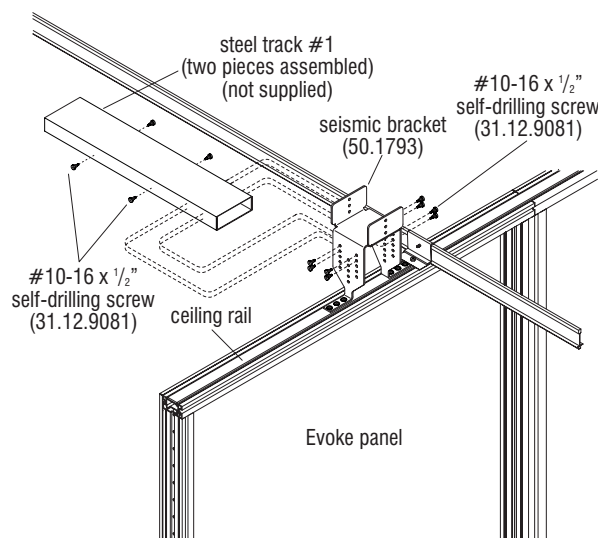

Figure 6 - Off-Center Seismic Bracing - Steel Track #1 to Seismic Bracket
2. Create steel track #1 length first to reach from the installed seismic bracket, over to a location where steel track #3 can reach vertically up to structure above (see Figure 7 for assembly reference). Steel track #1 will be made of two identically cut lengths of track fastened together and will not require any cuts for a bend (Detail B). It must extend horizontally from the seismic bracket to the location where steel track #2 can attach to it. Take into account that steel track #2 will bend up at an angle to the appropriate structure above (see Figure 7 for assembly reference). Once the length is determined for steel track #1, cut two pieces of the track material to equal size and nest them together. The open "channel" sides should be facing each other and will fit together with their side flanges offset from each other (Detail B). Secure both tracks together at the side flanges with #10-16 x 1/2 inch self-drilling screws (31.12.9081) (Figure 6). **Note:** Screw quantity will be determined by length of track and site conditions.
3. Install steel track #1 to the seismic bracket by placing one end inside the installed seismic bracket such that the side flanges of the tracks mate inside the bracket at the top four mounting holes on each side. This allows for maximum room to re-install ceiling tiles. Secure steel track #1 to the seismic bracket with eight #10-16 x 1/2 inch self-drilling screws (31.12.9081) as illustrated (Figure 6 & Detail C, next page).